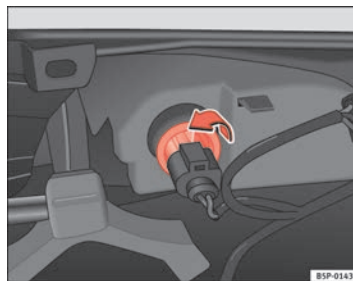

Fig. 196 Lamp on interior side of bumper
- Rotate the lamp holder to the left, and remove it in the direction of the arrow ⇒ fig. 196.